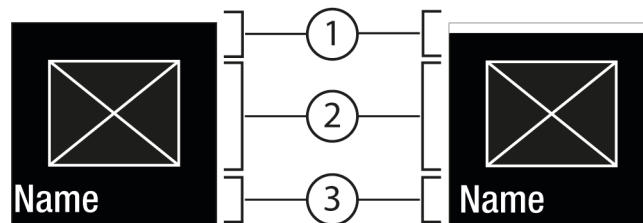
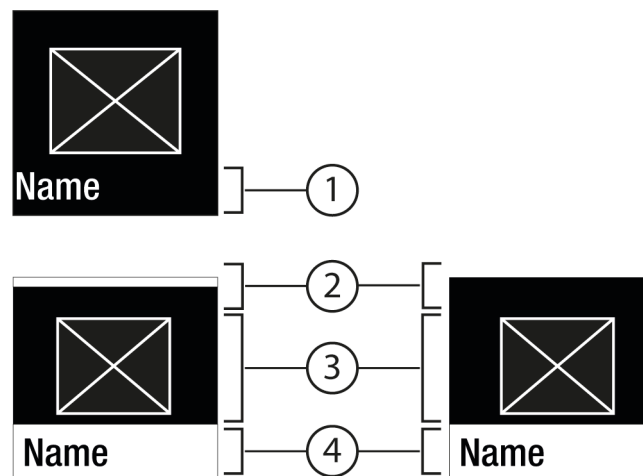

Fig. 7
Fig. 8
- Press Confirm Fig. 6 (2) to open the submenu Fig. 8 (4).
- Set a new value: Press Confirm Fig. 6 (2) to select an active value Fig. 7 (1).
- Back to the menu: Press Confirm Fig. 6 (2) to select the active value Fig. 7 (2).
- ▷ Status: On *Fig. 7 (1)* appears briefly in the submenu *Fig. 8 (4)*.